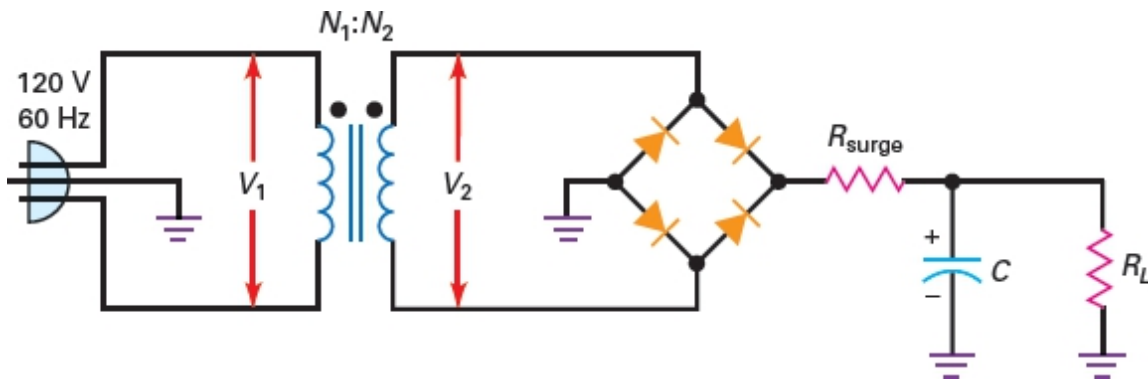

Figure-64 Surge resistor limits surge current
- Figure-64 illustrates the idea. A small resistor is inserted between the bridge rectifier and the capacitor-input filter.
What is the peak inverse voltage in Figure-64 if the turn's ratio is **8:1**? A **1N4001** has a breakdown voltage of **50 V**. Is it safe to use a **1N4001** in this circuit?
Using Figure-64, change the transformer's turns ratio to 2:1. Which 1N4000 series of diodes should you use?